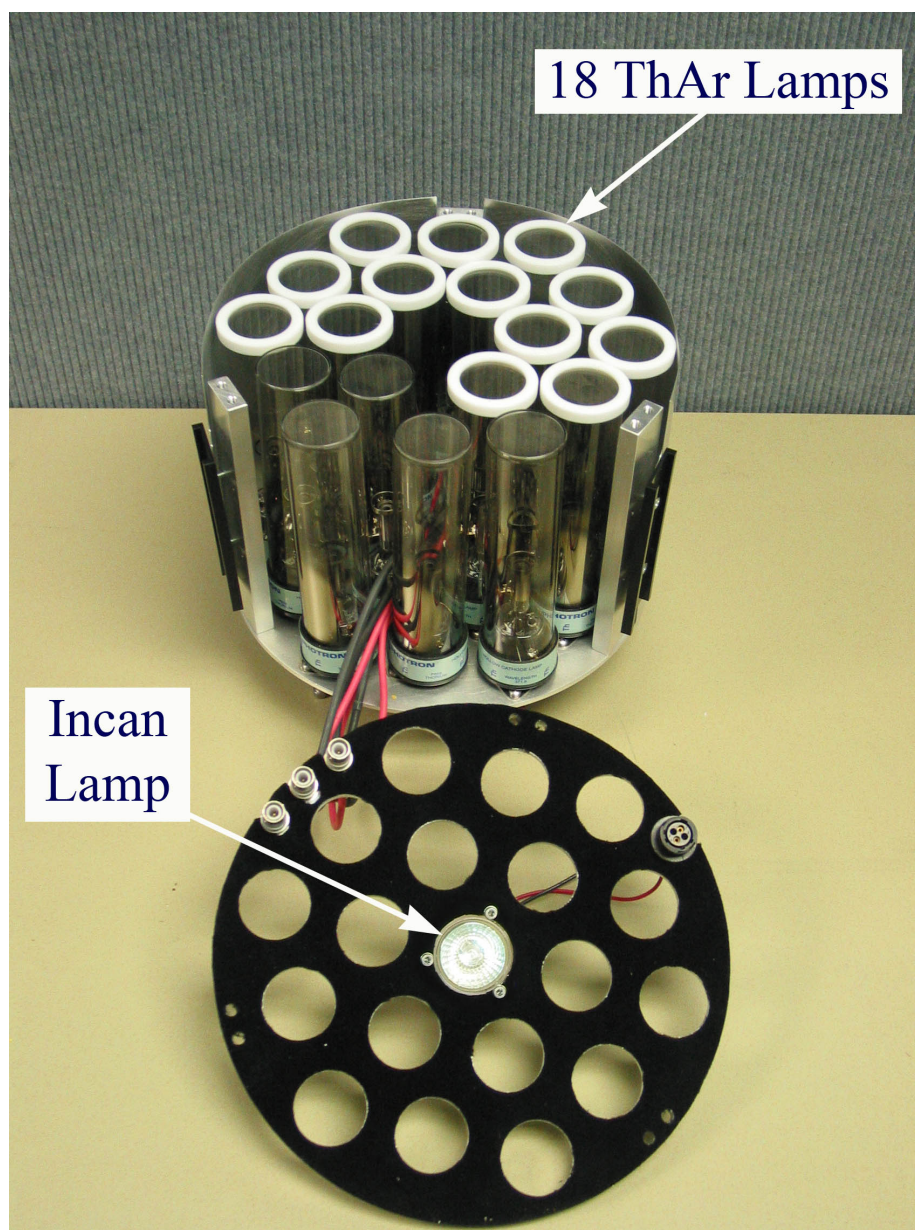

Figure 19: The partially assembled Hectochelle cal lamps system.
1. *Thorium-argon (ThAR) hollow cathode lamps* – These are nine (18) lamps that provide the primary wavelength calibration standard (see **Figure 19**). To make wavelength calibration exposure tractably short, they are mounted on a spider immediately in front of the secondary mirror and directly illuminate the focal plane. These bulbs are mounted on-axis and illuminate the focal plane relatively uniformly, irrespective of fiber position. Since these lamps point directly at the focal plane, they can be illuminated without closing the slit & it is recommended that a ThAr lamp be taken after every science frame or before and after each group of science frames. The guide cameras must have their gains reduced when the ThAr system is turned on, however this procedure, implemented by the HectoRobot operator, is routine. It is also essential to offpoint the telescope somewhat from the target stars during calibration, since it is undesirable to have stellar spectra superposed on the calibration data.